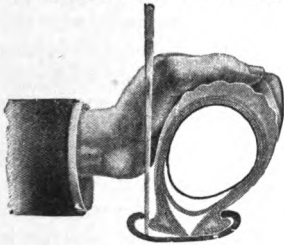

Fig. 1.
**TO REMOVE THE TIRE FROM THE RIM**—Have all the air expelled from the tube. Observe that one side of the outer case is lettered thus: "Apply this edge last and remove it first." The side of the case bearing this lettering should always be on the outside, away from the vehicle, to facilitate handling the tire in making repairs. With one hand push the top of the tire away from you, as shown in Fig. 1, and insert a tool back of the clincher, loosening it from the rim.